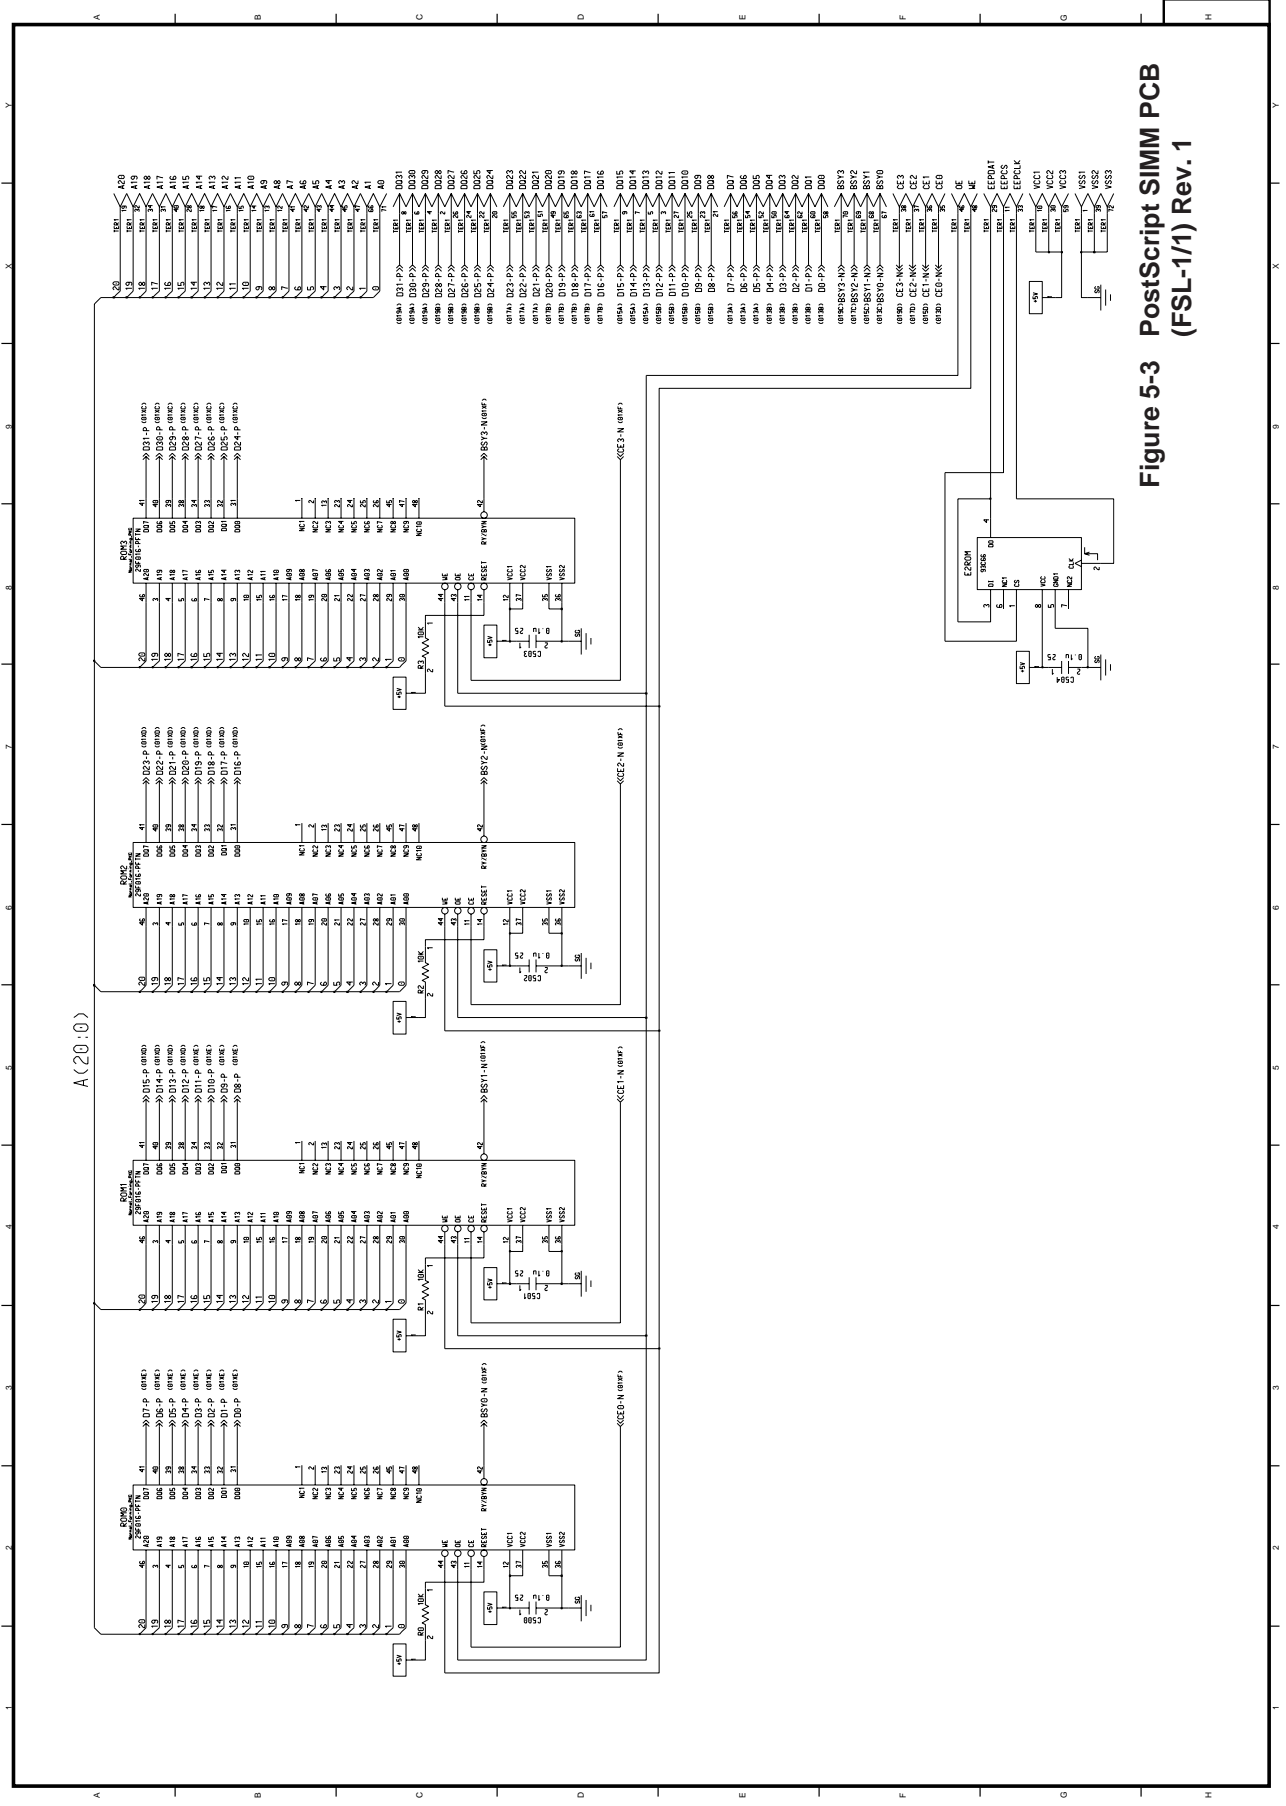

Figure 5-3 PostScript SIMM PCB (FSL-1/1) Rev. 1
- Figure 5-3(1/1) PostScript SIMM PCB (Used Flash ROM) (FSL-PCB, Rev.1)